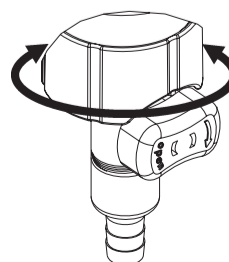

fig. 2
- Rotate the lower part of the filter 2 to 3 times to the right or to the left (fig. 2).